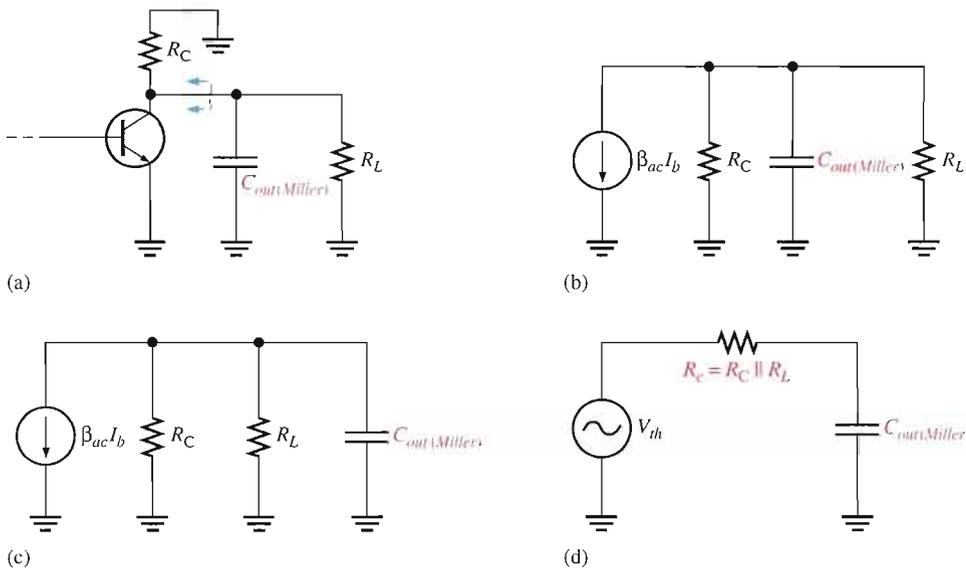

FIGURE 10–33
Derive the input RC circuit for the BJT amplifier in Figure 10–31. Also determine the critical frequency. The transistor's data sheet provides the following:  $\beta_{ac} = 125$ ,  $C_{be} = 20$  pF, and  $C_{bc} = 2.4$  pF.
► **FIGURE 10–31**
The resulting high-frequency input RC circuit is shown in Figure 10–32. The critical frequency is
► **FIGURE 10–32**
High-frequency equivalent input RC circuit for the amplifier in Figure 10–31.
Determine the input RC circuit for Figure 10–31 and find its critical frequency if a transistor with the following specifications is used:  $\beta_{ac} = 75$ ,  $C_{be} = 15 \text{ pF}$ ,  $C_{bc} = 2 \text{ pF}$ .
**The Output RC Circuit** The high-frequency output RC circuit is formed by the Miller output capacitance and the resistance looking in at the collector, as shown in Figure 10–33(a). In determining the output resistance, the transistor is treated as a current source (open) and
one end of  $R_C$  is effectively ac ground, as shown in Figure 10–33(b). By rearranging the position of the capacitance in the diagram and thevenizing the circuit to the left, as shown in Figure 10–33(c), you get the equivalent circuit in Figure 10–33(d). The equivalent output  $RC$  circuit consists of a resistance equal to  $R_C$  and  $R_L$  in parallel in series with a capacitance that is determined by the following Miller formula:
Determine the critical frequency of the amplifier in Example 10–10 (Figure 10–31) due to its output  $RC$  circuit.
The equivalent output RC circuit is shown in Figure 10–34. Determine the critical frequency as follows ( $C_{out(Miller)} \cong C_{bc}$ ):
► FIGURE 10–34